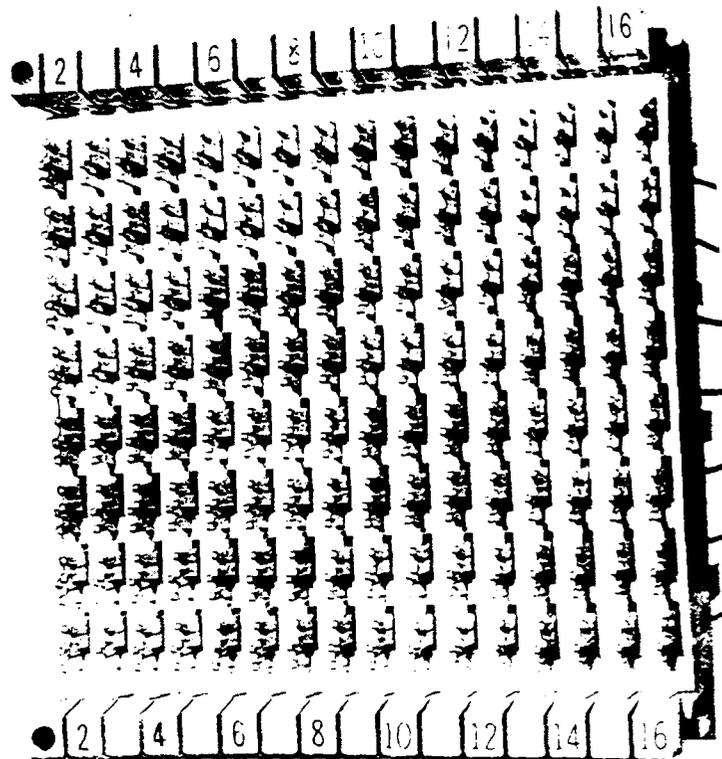

Figure 2—78-Type Connecting Block — 64-Pair Terminal Arrangement
2. 128 twin-clip terminals arranged in four paired rows and 16 columns for 64-pair terminations used for *ESS™* electronic switch line equipment (Figure 2)